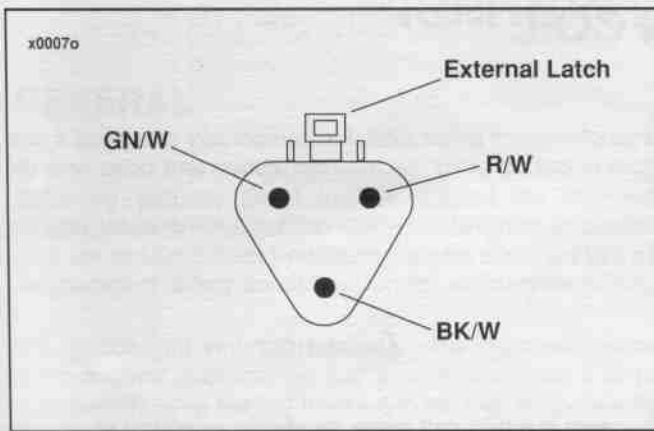

Figure 8-8. 3-Place Deutsch Connector Wire Colors (Pin Receptacle Side)
3. Install cam position sensor (7) with screws (6). Leave screws loose.
4. Insert cam position sensor wiring terminals in correct positions in connector (11) plug end. Fit wire seal into back of pin housing, if removed. Grasp crimped pin approximately 1 inch behind the contact barrel. Gently push pins through holes in wire seal into their respective numbered chambers. See Figure 8-8 for wire color locations. Feed pin into chamber until it "clicks" in place. Insert tapered end of secondary locking wedge into pin housing and press down until it snaps in place.